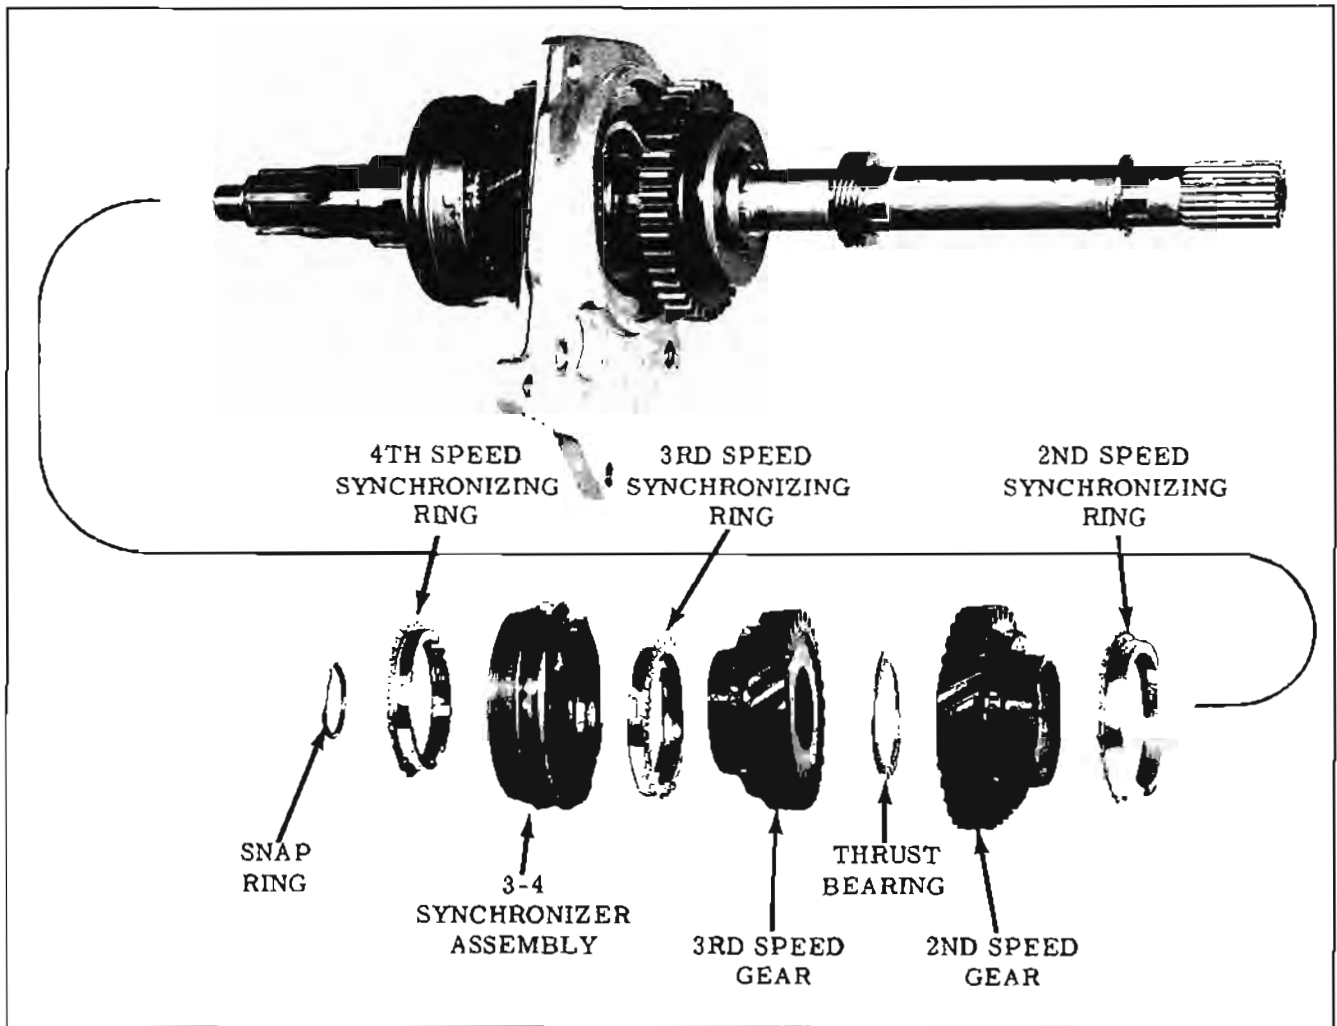

Fig. 11-246 Mainshaft Assembly
12. From the front of the main shaft, install the second speed gear synchronizing ring so notches in the ring correspond to the keys in the hub. (Fig. 11-246)